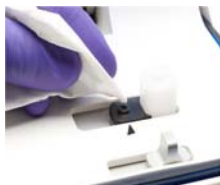

Figure 4-39: Wiping the Drop Holder with a Kimwipe
11. Lift the cover, discard the used biosensor, wipe the drop holder with a swab or Kimwipe (Figure 4-39), and rinse 3X with sample diluent—wiping each time with a swab or Kimwipe.